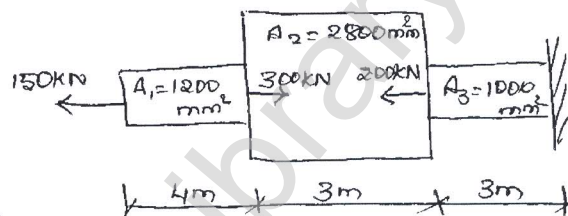

Fig.Q1(b)
- b. Evaluate the deformation of the bar, given,  $E_1 = E_2 = E_3 = 200\text{GPa}$ , refer Fig.Q1(b). (10 Marks)